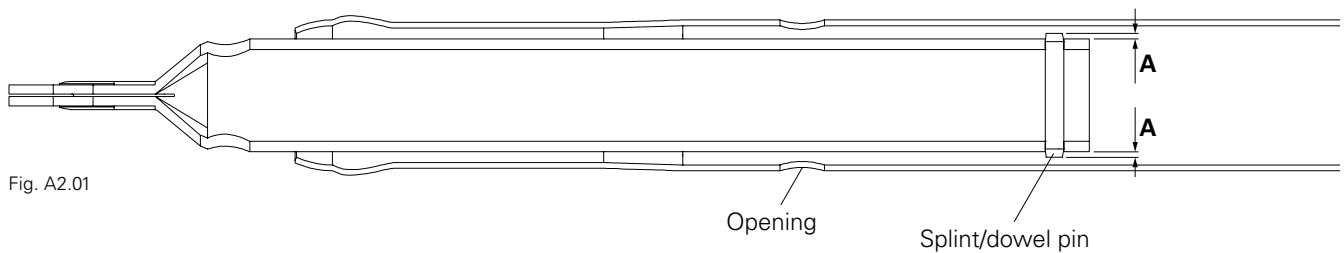
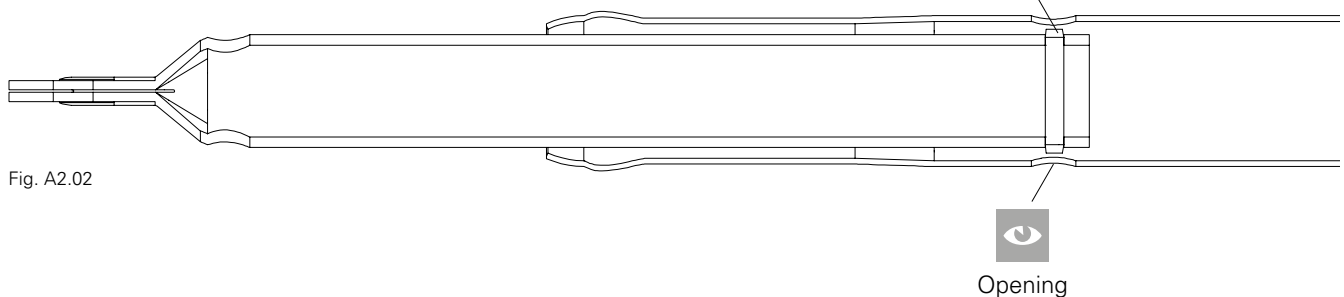

Fig. A2.01
Fig. A2.02
- ⇒  Use a suitable light source for this, e.g. torch (Fig. A2.01 + Fig. A2.02)